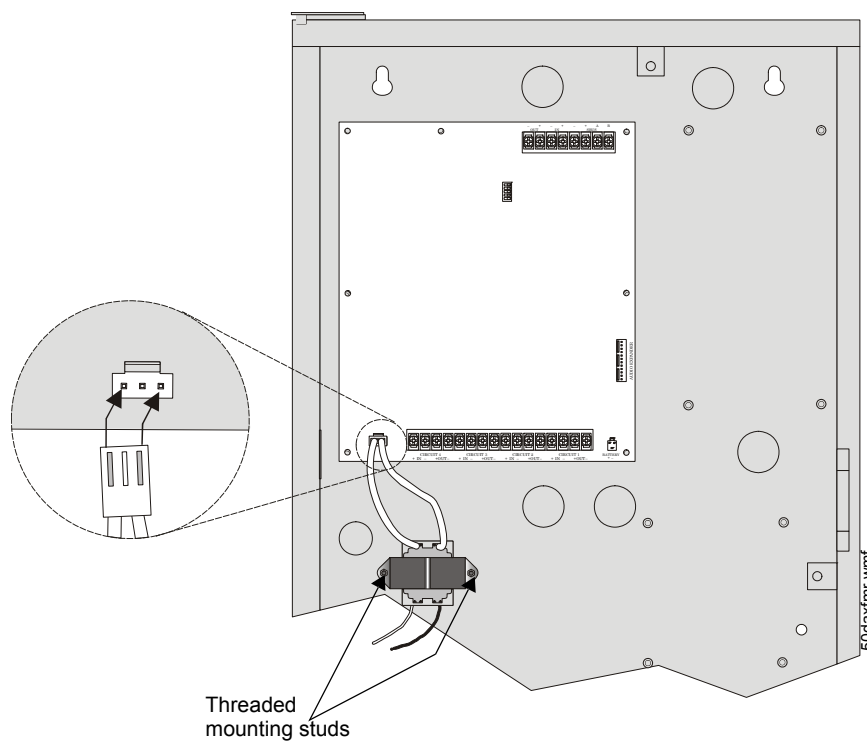

Figure 1.9 Transformer Mounting
3. Mount the transformer onto the threaded cabinet transformer mounting studs using the supplied locking hex nuts as shown in Figure 1.9.